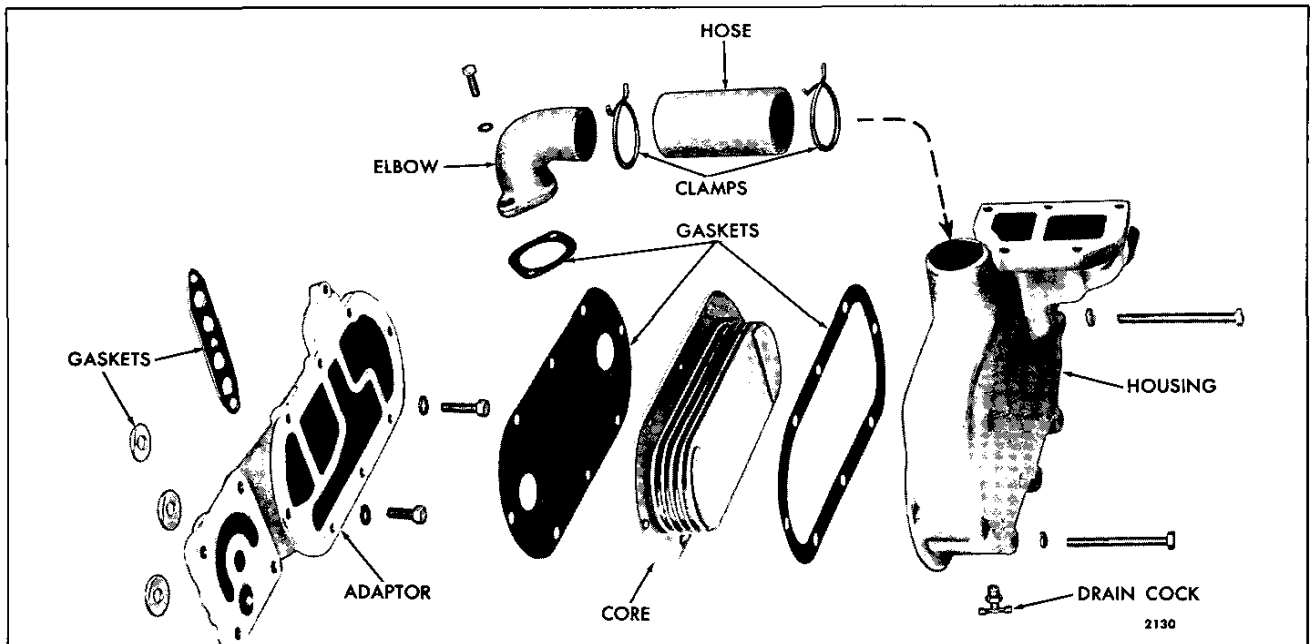

Fig. 4 – Oil Cooler Details and Relative Location of Parts (In-Line Engine)
1. If the oil cooler adaptor (In-line engines) was removed from the cylinder block, remove the old gasket material from the bosses where the adaptor sets against the block. Affix new adaptor gasket and shims, then secure the adaptor to the cylinder block with five bolts and lock washers (Fig. 4). A nitrile base oil cooler to adaptor gasket is currently used on vehicle engines equipped with the AT540 transmission. The new gasket (charcoal colored) is more compatible with transmission fluid than the former gasket (beige color).
2. Clean the old gasket material from both faces of the core flange and affix new gaskets to the inner and outer faces (Figs. 4 and 5). Insert the core into the cooler housing.